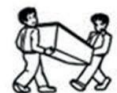

FIGURE 1
- DO NOT TRANSPORTING THE REFRIGERATOR IN A LYING POSITION. IF THERE ARE ANY LOADING RESTRICTIONS, PLACE THE REFRIGERATOR AT A 45 DEGREE ANGLE (FIGURE 1)